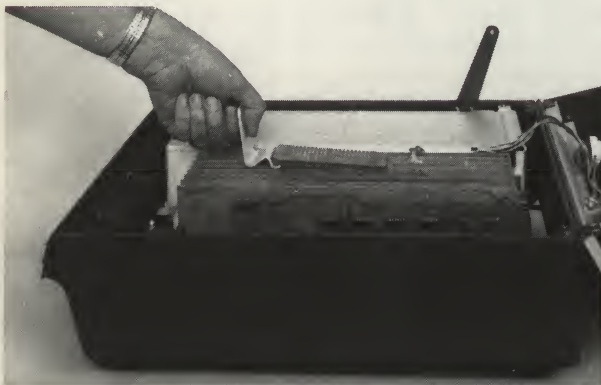

Figure 7-7. Top Plane Assembly Removal
2. () Insert connector removal tool under Top Plane Assembly as shown in figure 7-7 and remove Top Plane Assembly by pressing down on connector removal tool handle.
3. () Insert connector removal tool under Top Plane Assembly as shown in figure 7-7.